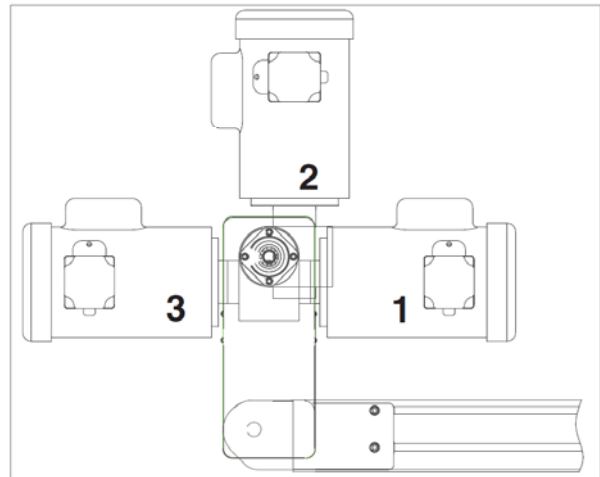

Figure 8
1. Typical components (Figure 8)